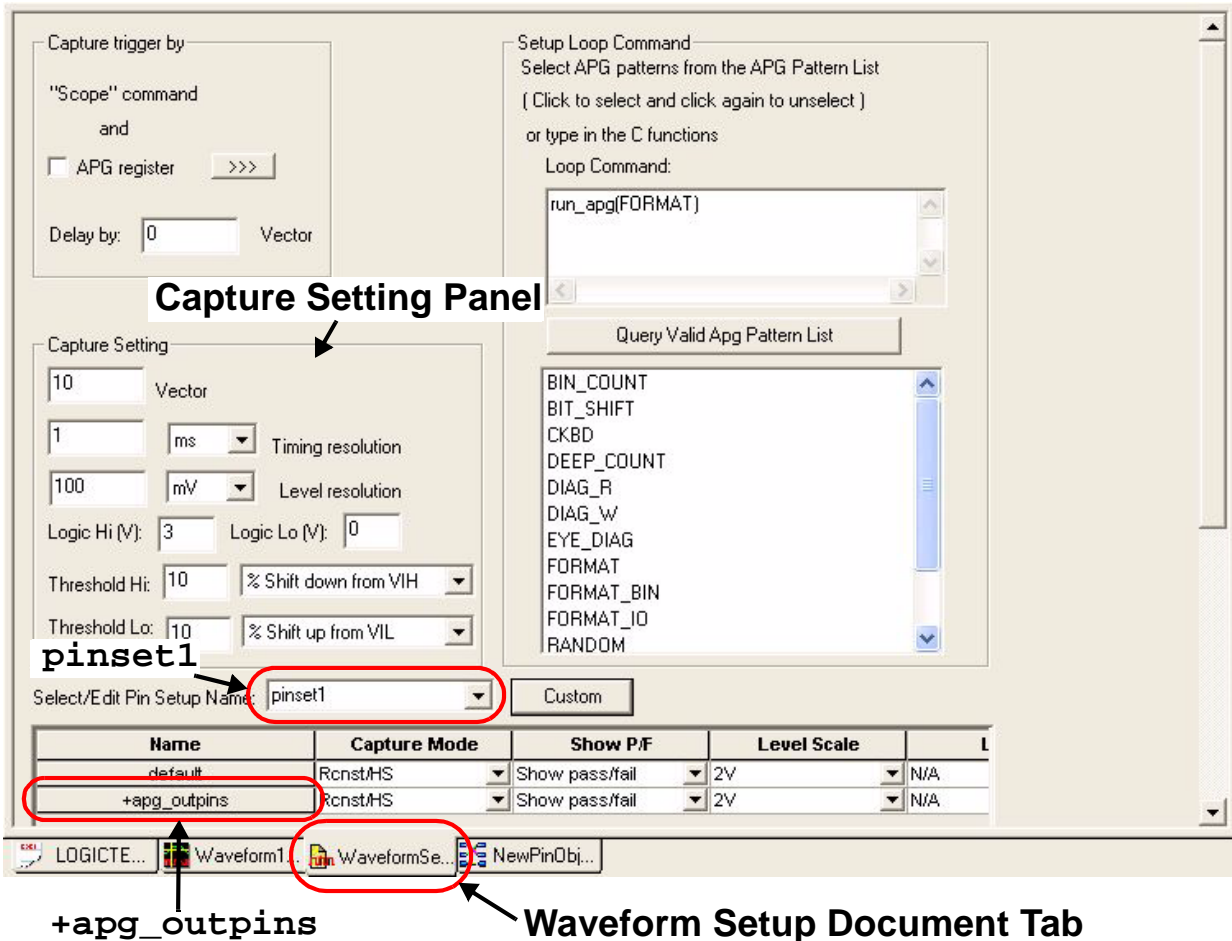
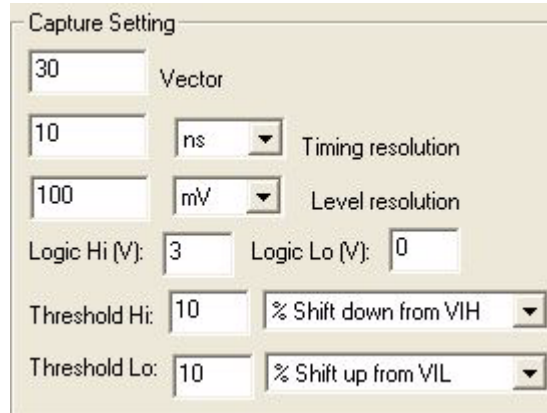

Figure 6-65. Waveform Setup Window Displaying apg_outpins Group
Figure 6-70. Waveform Setup Capture Setting Panel
- 7 Selecting the Waveform Setup Document tab displays the Waveform Setup Window with the `+apg_outpins` added to the bottom of the setup window (Figure 6-65). The + (plus) symbol indicates that this is a pin group that can be opened to display the pins in the group.
- 11** In the Capture Setting panel (Figure 6-65 on page 276), the following fields are changed from their defaults (Figure 6-70):